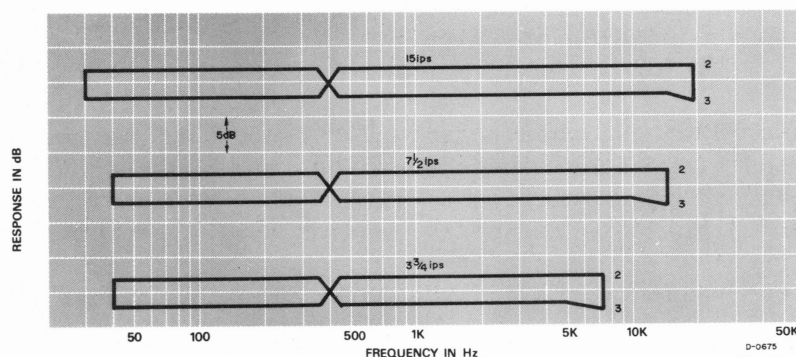

Fig. 7-9 Freq. Response Limits
2. Apply a signal swept from 50 Hz to 15 kHz/-28 dB to the unit while recording on a record test tape. Refer to Fig. 7-9.